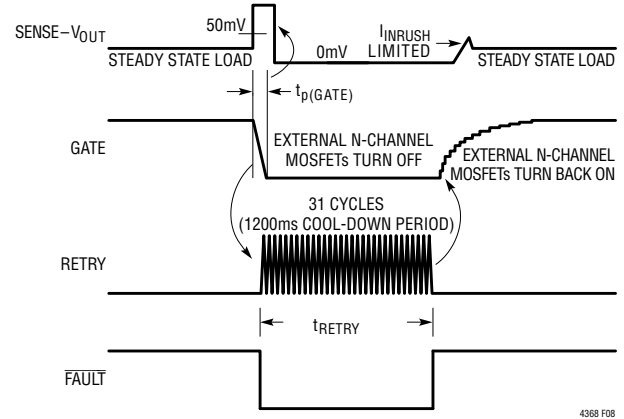

Figure 8. Forward Overcurrent Fault with  $0.22\mu F$  RETRY Capacitor
1. Automatically restart by placing an external capacitor on the RETRY pin. An internal cool-down timer will charge/discharge this capacitor 31 times with a 5.5ms/nF total delay. At the end of this delay, the external MOSFETs are turned back on, thus reconnecting the load to the input supply. The 0.22 $\mu$ F capacitor ( $C_{RETRY}$ ) in the application of Figure 7 yields a 1200ms cool-down timer delay. Note that the adjustable cool-down period provides the user with a means of keeping the external MOSFETs within the rated SOA (safe operating area). See Figure 8 timing diagram.